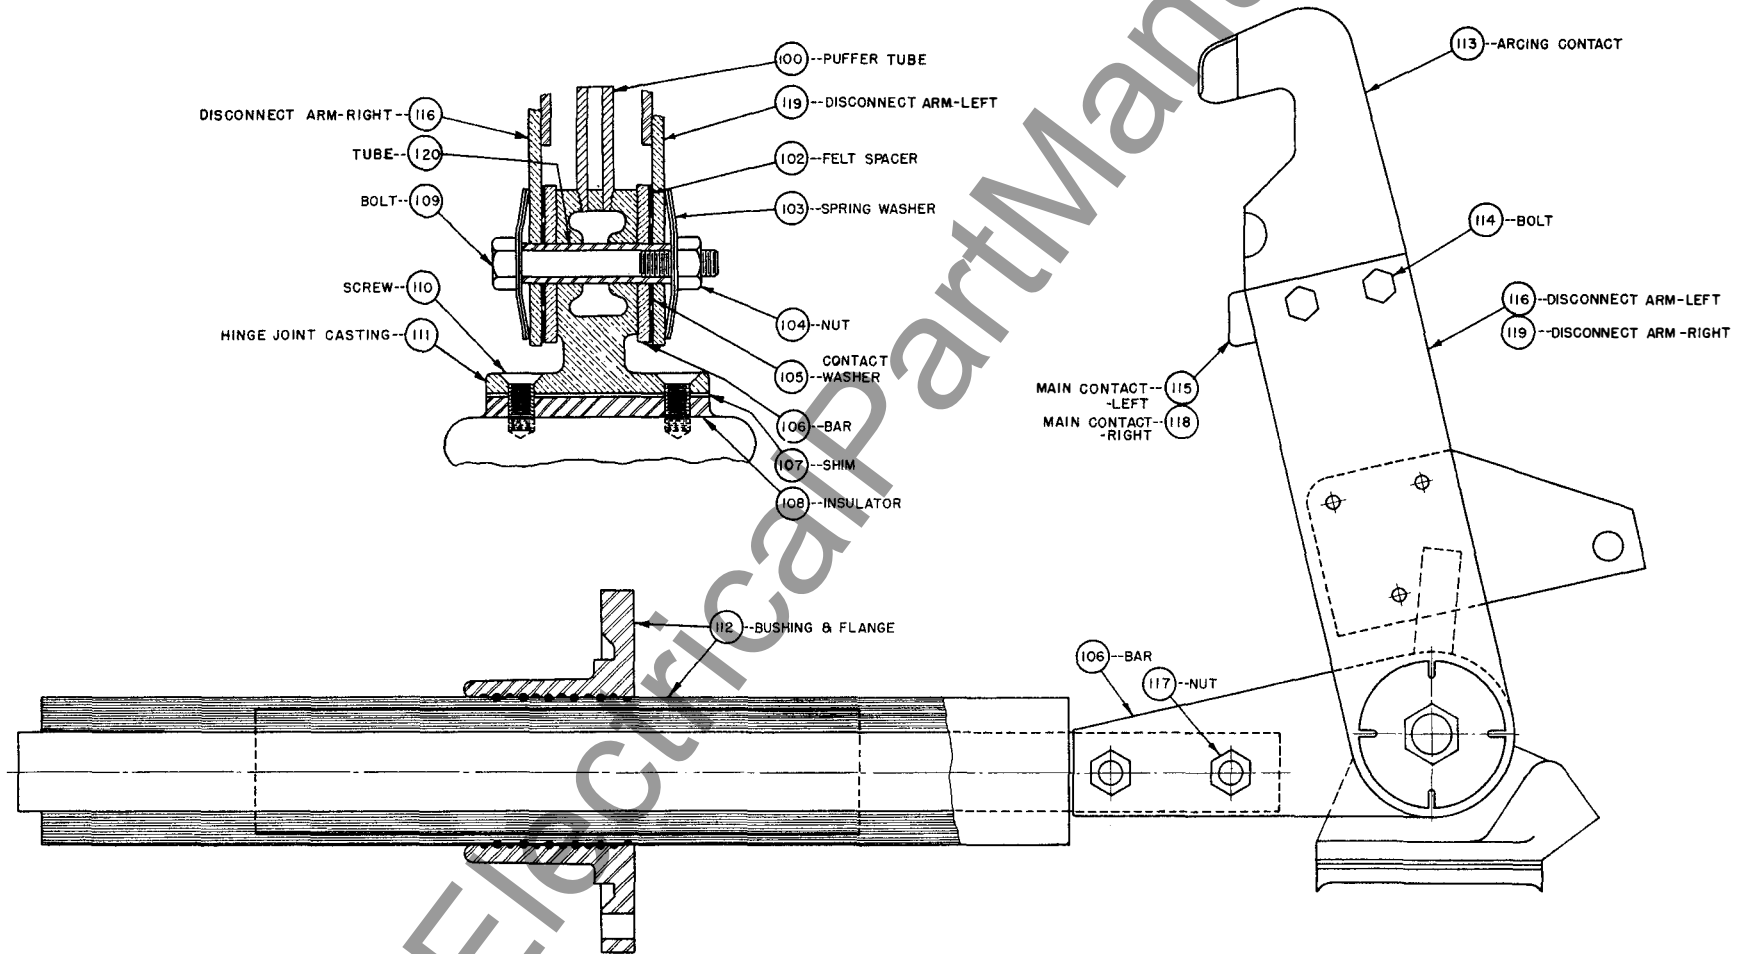

FIG. 7
DISCONNECT CONTACT ARMS (Fig. 7)
6. Remove disconnect arms as a unit by removing bolt 7-109. Refer to Fig. 7. Carefully inspect all contact surfaces in hinge joint. Contact washer 7-105 and adjacent surfaces should be clean and free of roughness